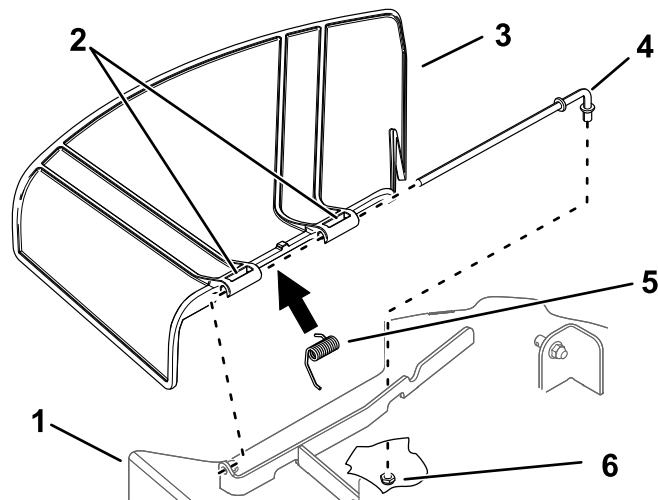

Figure 68
1. Remove the nut (3/8 inch) from the rod under the mower (Figure 68).
2. Slide the rod out of the deck bracket, spring, and grass deflector (Figure 68).
4. Install the new grass deflector (Figure 68).
7. Slide the rod through the second grass-deflector pivot (Figure 68).
9. Secure the rear end of the rod into the mower with a nut (3/8 inch) as shown in Figure 68.